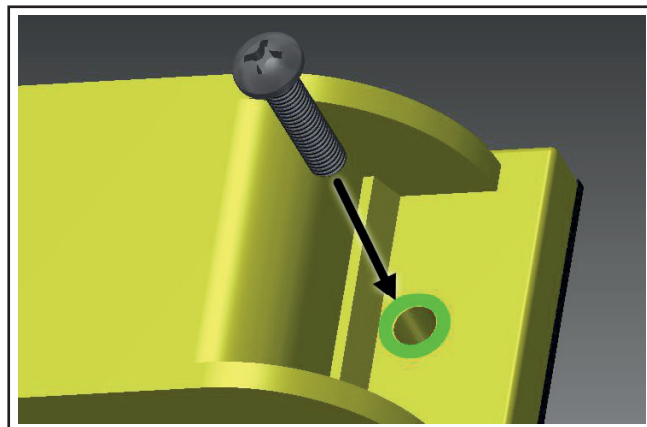

Figure 9 - Adhesive sealant application
- 1.25. Once the light is in place, but before inserting the screws, apply Dolchem around the screw holes (See Figure 9).